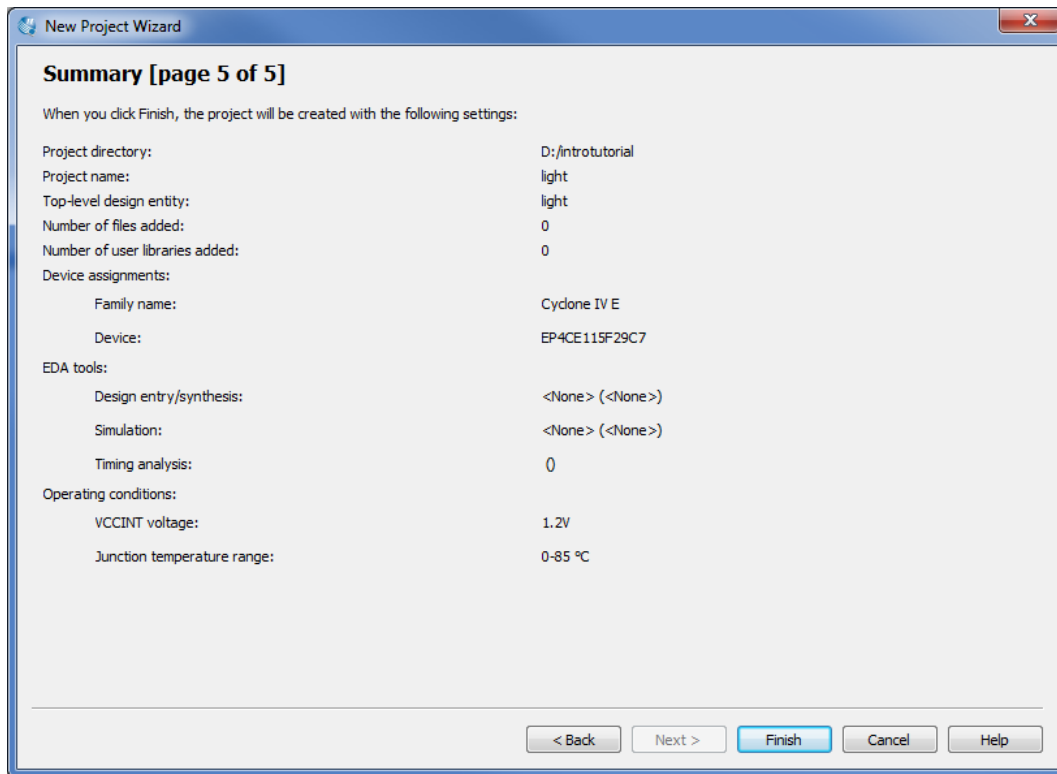
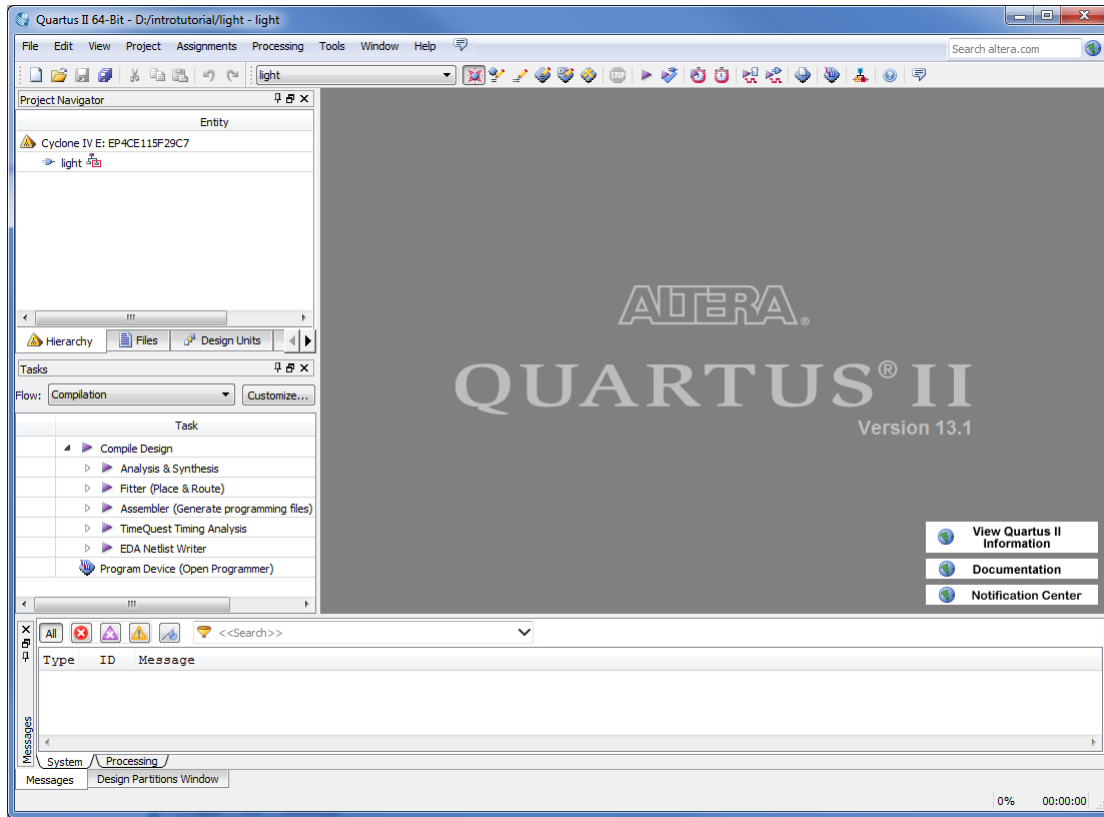

Figure 9. Example summary of a DE2-115 board project settings.
Figure 10. The Quartus II display for created project on a DE2-115 board.
6. A summary of the chosen settings appears in the screen shown in Figure 9. Press Finish, which returns to the main Quartus II window, but with *light* specified as the new project, in the display title bar, as indicated in Figure 10.